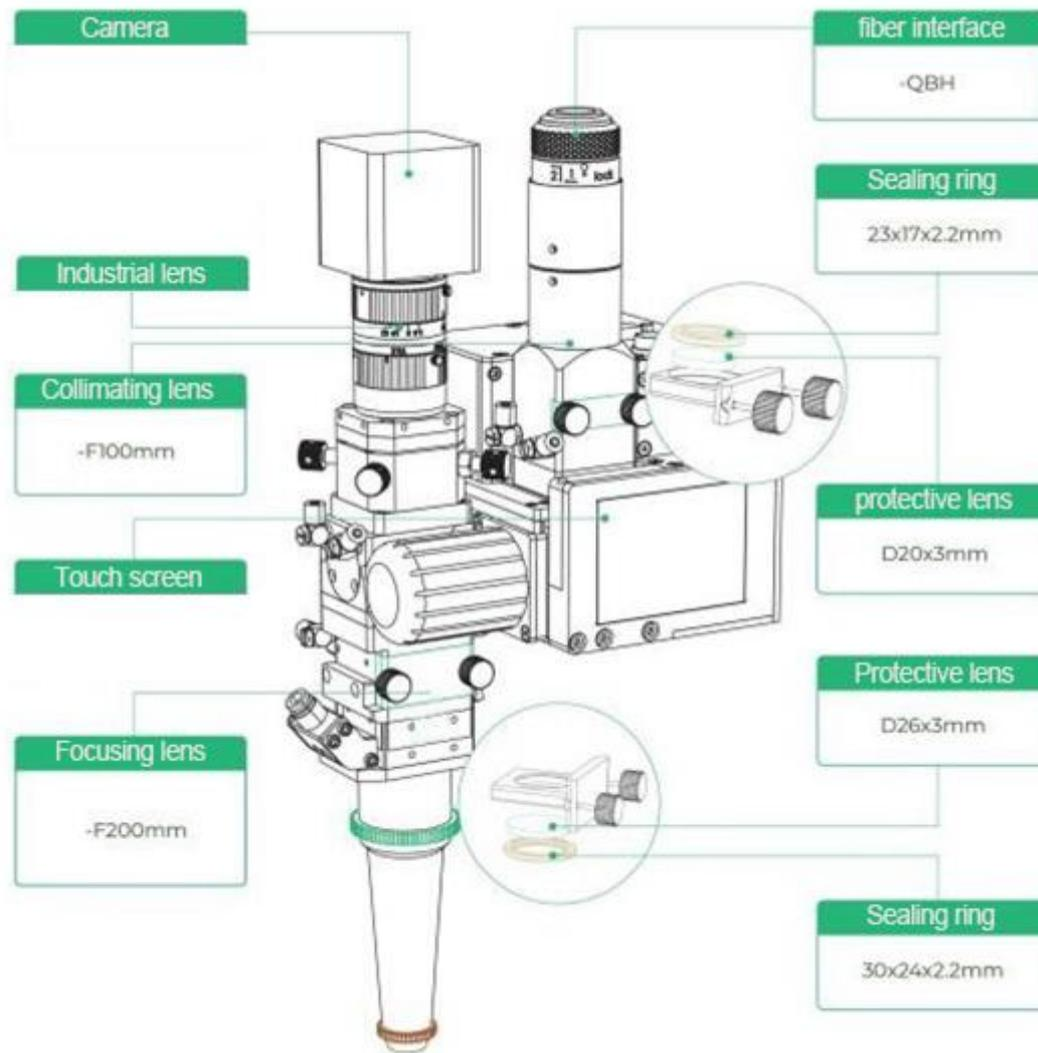

Figure 4.1
1. As shown in Figure 4.1, the collimation protective lens and the focusing protective lens should be regularly checked for dirt before the first use every day, and if dirty, they should be cleaned or replaced; when the power is weakened during use, or the effect is not good, check whether the two protective lenses are dirty, damaged, etc., and then clean or replace.